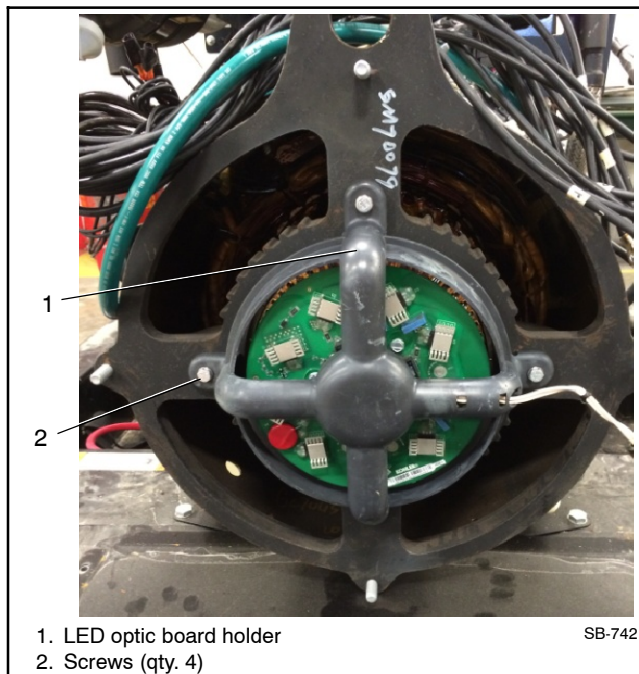

Figure 2 Removing LED Optic Board Holder
- 3.1 Remove four screws and the LED optic board holder. See Figure 2.